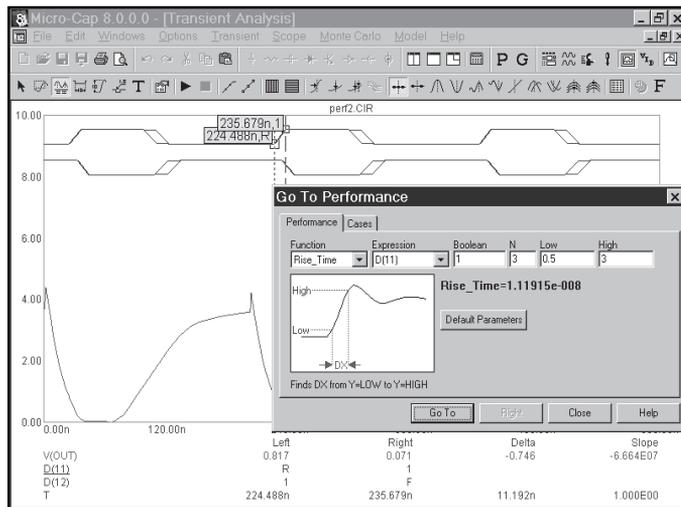

Figure 7-24 Measuring digital rise times
Performance functions also work on digital curves. Select D(11) from the Expression list and Rise_Time from the Function list. Set N=2 and click the Go To button. The result looks like Figure 7-24.